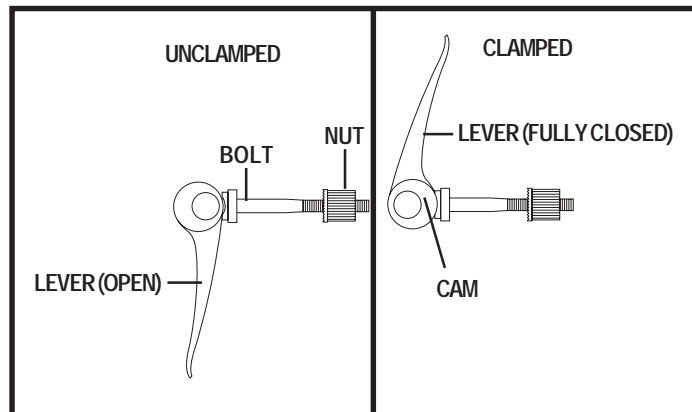

Figure 14. Quick Release Fastener Operation
2. Tighten and clamp the quick-release fastener. See figure 14.
Quick Release Fasteners: The seat is secured to the seat post with a quick release fastener. The quick release fastener consists of a bolt, a lever, and a nut. See figure 14. The lever has a cam on the end that allows it to clamp into place. The quick release fastener has two states: clamped and unclamped. When the lever is open, the quick release fastener is unclamped. When the lever is closed, the quick release fastener is clamped.
7. Tighten and clamp the quick release fastener. See figure 14.